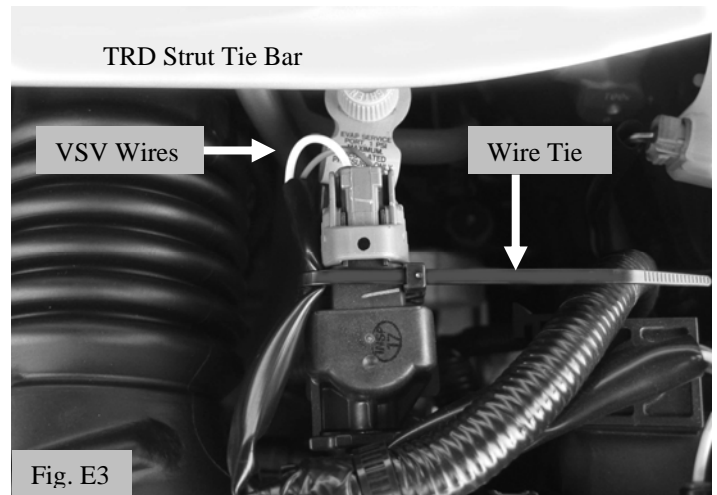

Fig. E3
4. Use the 6-inch wire tie to secure the Vacuum Switched Valve (VSV) connector wires to the VSV. Position wires as shown. (Figs. E3 & E4)